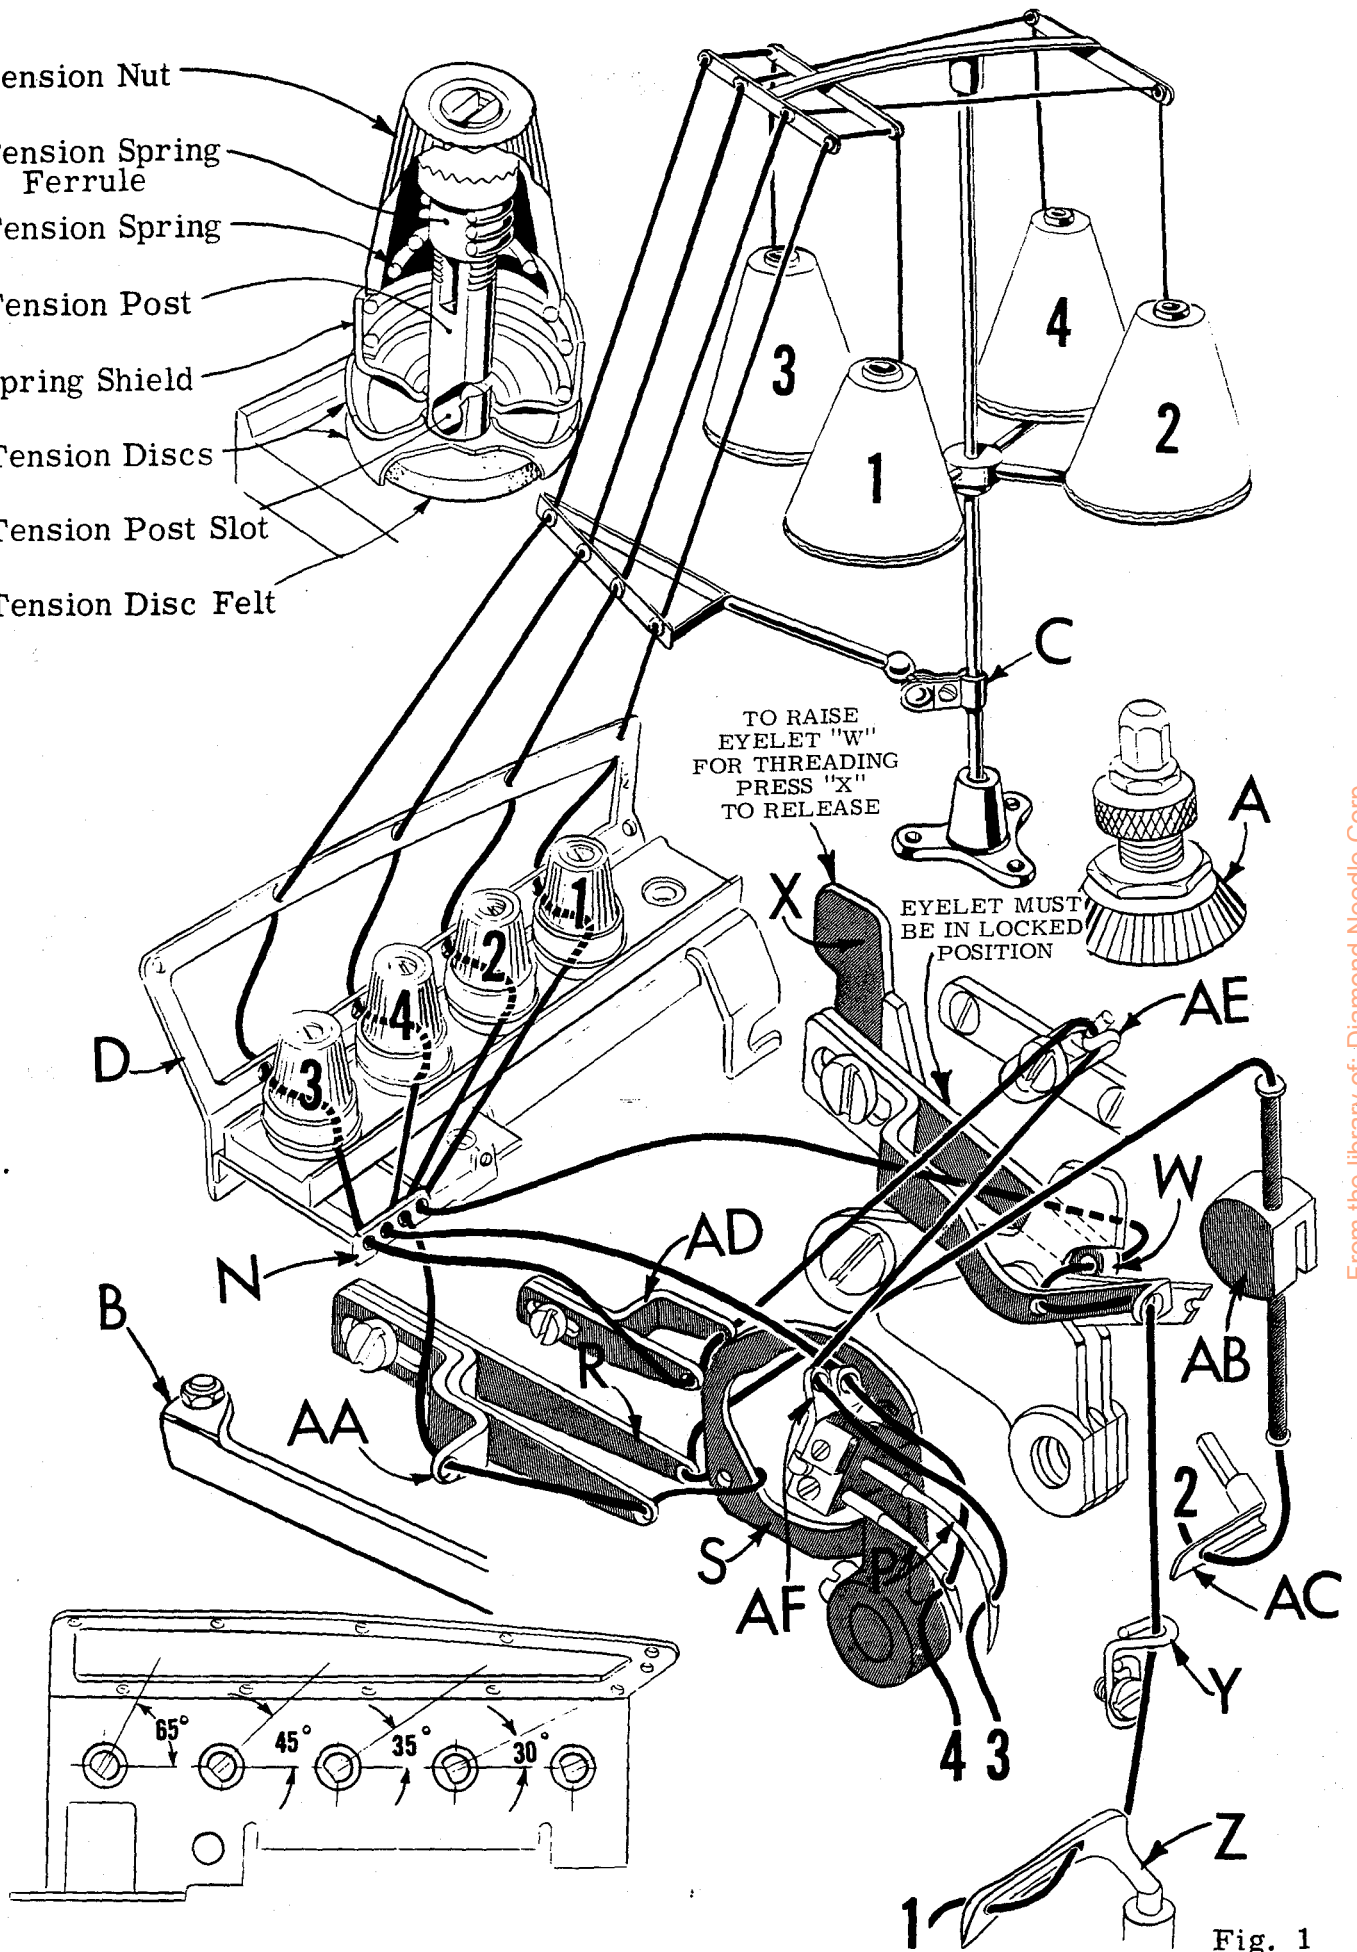
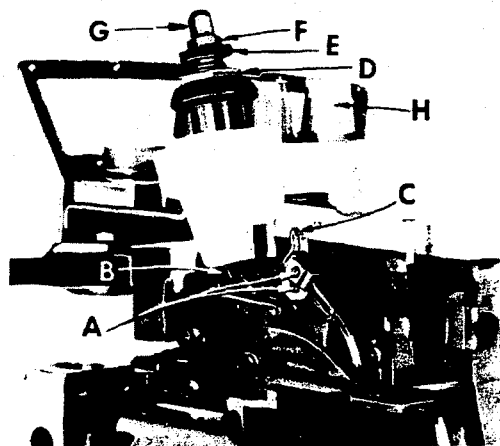
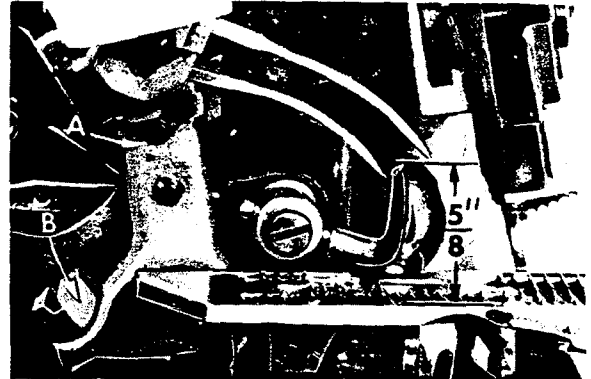

Fig. 1
Fig. 2
Fig. 3
Release pressure on presser foot by turning the presser foot release bushing (A, Fig. 1 or 1A) and swinging presser arm (B) out of position. Turn handwheel in operating direction (away from operator) until needle holding screws (A, Fig. 2) are just exposed from behind presser spring plunger (B) and accessible to screwdriver. Loosen screw and withdraw needle. When replacing needles observe the position of the flat which is at the left of the shank and be sure the needle is inserted the full depth to the combination eyelet and stop plate (C).
Only parts involved in threading are shown in threading diagrams (Fig. 1 and 1A). Parts are placed in their relative positions for clarity.
The amount of tension on the needle and looper threads is regulated by the knurled tension nuts (E, Fig. 1). Tension on the threads should be only enough to secure proper stitch formation. Using a postal scale, the measurements are taken with the needles at the top of their stroke and pulled in the direction as indicated. As a start the tensions for the 515 stitch type may be as follows:
Sufficient pressure to feed work uniformly should be maintained. Should it be necessary to increase or decrease amount of pressure on presser foot loosen lock nut (D, Fig. 2) and turn the adjusting screw (E). Adjusting screw has a right hand thread so tightening increases the pressure, loosening decreases pressure. When pressure adjusting screw (E) has been properly set, tighten lock nut (D). With presser foot resting on the throat plate, position locking nut (F) so that its under surface is approximately 1/32 inch to 1/16 inch from the top surface of adjusting screw (E). Set the cap (G) against the locking nut (F).
Release the pressure on presser arm and swing arm out of position. Insert both needles (Type 161 GS for the 401 stitch and Type 154 GAS for the overedge stitch) into the left and right holes, respectively, of the needle driving arm (A, Fig. 3), so that the butt ends contact the needle driving arm thread eyelet (C, Fig. 2). Secure needles in this position with clamp screws (A, Fig. 2).
With the throat plate assembled in position, the needles should center in the throat plate needle holes. To align the needles, loosen clamp screw (B, Fig. 3) and reposition the needle driving arm to the right or left as required. The height of the needle driving arm is correct when the point of the left needle is  $\frac{5}{8}$  inch above the throat plate (Fig. 3) when at the top of its stroke. Tighten clamp screw (B) after correct height has been obtained and needles have been centered in the throat plate needle holes. Remove throat plate
For convenience the looper may now be threaded as shown in (Fig. 1 or 1A) and as described under paragraph "To Thread 401 Looper". Replace differential feed dog, throat plate, lower knife holder and reset upper knife. Check cutting action with thread.